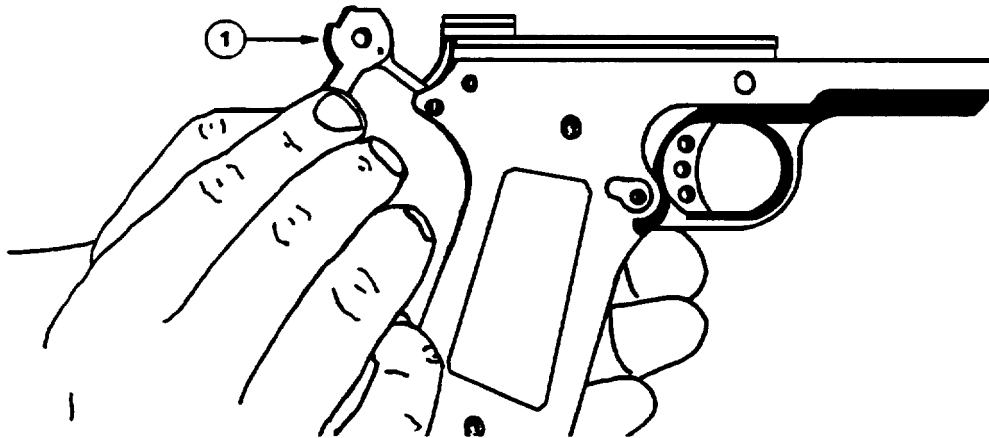

Figure 6-27. Removing Hammer Group
(12) Lift and remove hammer group (1), Figure 6-27, from receiver assembly.
(7) Install hammer group (1), Figure 6-27, inside receiver assembly.